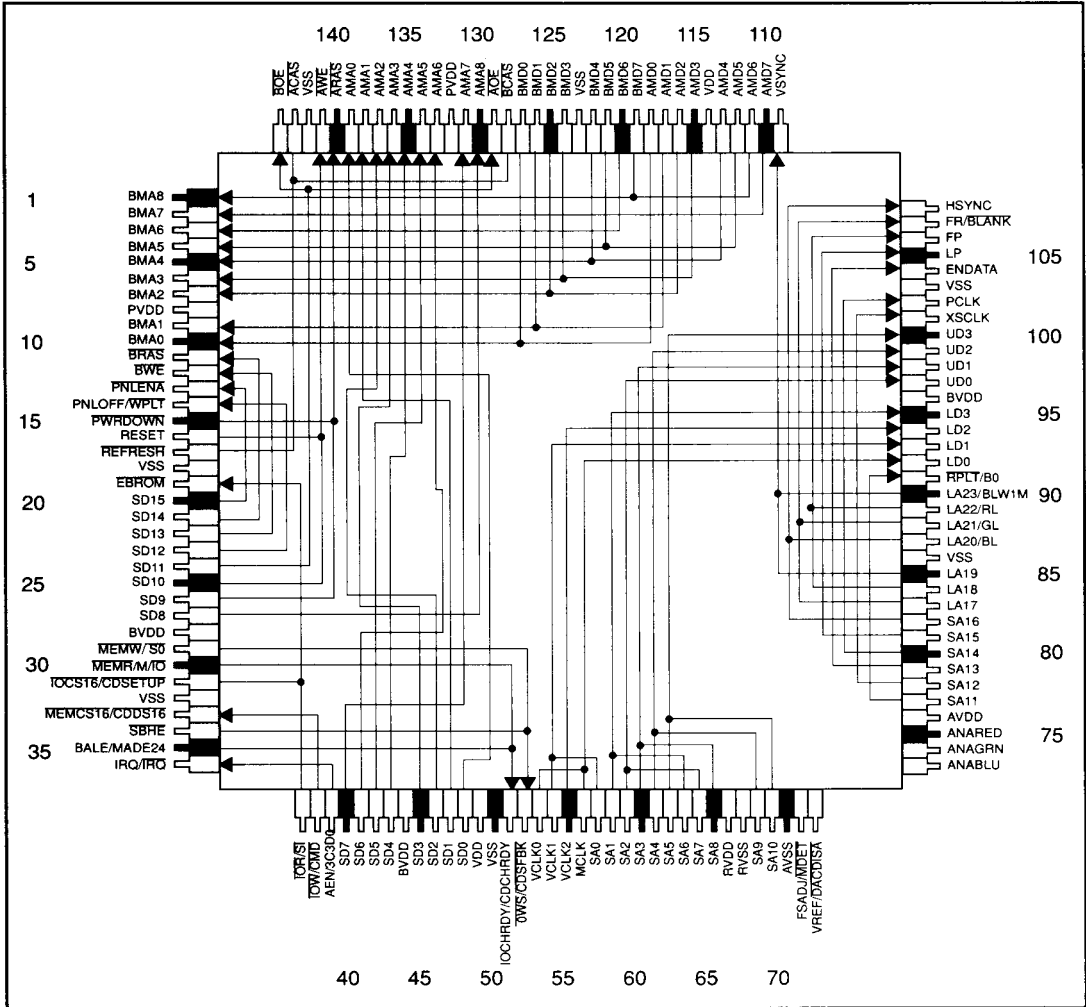

FIGURE 6-31 I/O MAPPING GROUP DIAGRAM
- An I/O Mapping Group Diagram (Figure 6-31)
Figure 6-31 provides a diagram of the I/O mapping groups (paths).